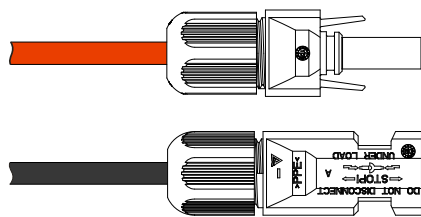

Figure 3-39 Tighten the lock nut
Step 4 Screw and tighten the locking nuts of the positive and negative connectors to corresponding insulating shells, as shown in Figure 3-39.